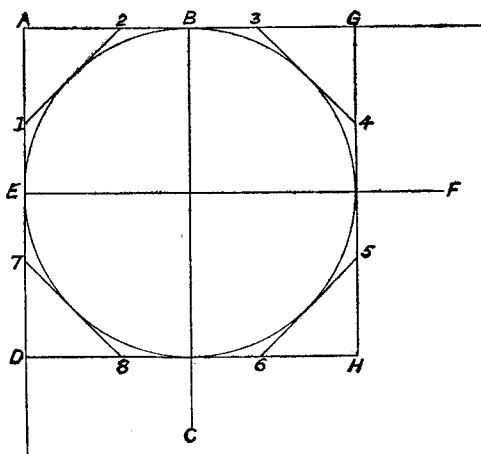

Fig. 3. Setting out to rough out a disc from square material
In Fig 3 (A) is the corner of the plank, in which the end (AD) is proved to be square to the side (AG), and both side and end square to the face of the wood. At a distance (AB)— $\frac{1}{4}$ in. short of the height of lathe centre in the gap, if any—draw the pencil line (BC) parallel to (AD), and the same distance (E) from (A) draw (EF) parallel with (AG). From the intersection of these as centre, sweep out the circle, touching the side and end at (B) and (E). From (G), which is (2AB) from (A) draw (GH) parallel with (AD) and touching the circle; similarly from (D)
Fig. 9 shows on bed a special faceplate chuck, found almost as it appears, with a projecting boss at back, which has since been bored and threaded to fit the writer's lathe. It is ideal wood (thought to be Canadian birch) to turn and screwcut. It carries dead central a $\frac{3}{8}$ in. \times 16 (Whitworth standard) flanged nose from which it was nose-threaded, and, when mounted, runs truly all ways. It has been used to clamp and carry discs held by nut and washer on the centre screw. It is thought to be part of some kitchen accessory and is $5\frac{1}{2}$ in. diameter. Recently a 4 in. disc, holed $\frac{3}{8}$ in., and roughed out as in Fig. 3, was turned dead truly on it.